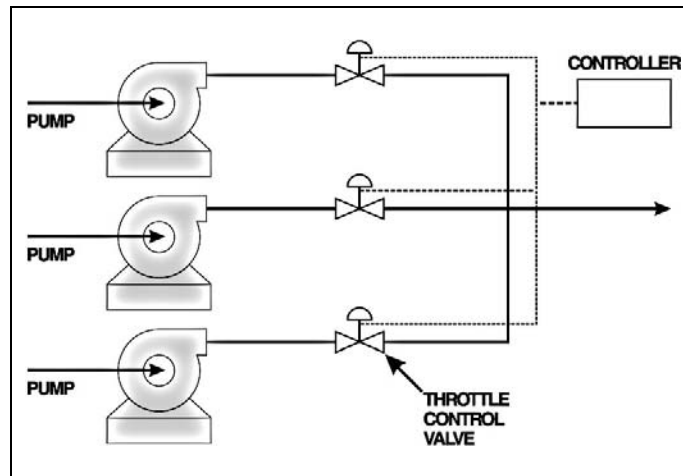

Figure 8
- H. The best way of ensuring that one of the pumps in a parallel pump system is not deadheaded is to provide a separate control valve for each pump as Shown in Figure 8. Sunflo also recommends that individual minimum flow lines be installed for each pump operated in parallel.
- I. If individual throttle control valves on each pump as shown in Figure 8 are not available, Sundyne can modify the steepness of the Head-Flow curve by using a discharge orifice plate installed on the discharge of each pump, to assure proper parallel operation. Contact Sundyne for the proper orifice sizing and pump modifications.